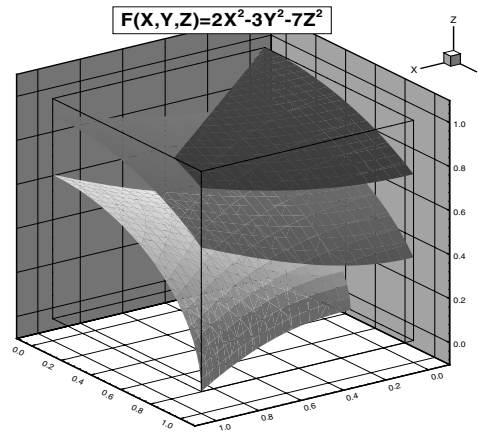

Figure 20-15. Iso-surface plot of an analytic function.
Using Tecplot’s data manipulation tools, you can create iso-surface plots of 3-D volume analytic functions such as $F(x,y,z)=2x^2-3y^2-7z^2$. An iso-surface plot of this function in the range $x=0$ to $x=1$, $y=0$ to $y=1$, and $z=0$ to $z=1$ is shown in Figure 20-15.
3. Enter the dimensions of I, J, and K. These will be, respectively, the number of points plotted in the X-, Y-, and Z-directions. Figure 20-15 was plotted using a dimension of 20 for each index.